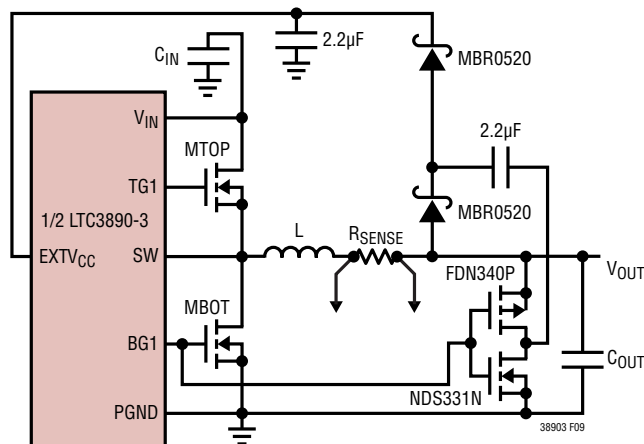

Figure 9. Capacitive Charge Pump for EXT_V_{CC}
4. EXT_V_{CC} Connected to an Output-Derived Boost Network. For 3.3V and other low voltage regulators, efficiency gains can still be realized by connecting EXT_V_{CC} to an output-derived voltage that has been boosted to greater than 4.7V. This can be done with the capacitive charge pump shown in Figure 9. Ensure that EXT_V_{CC} < V_{IN}.